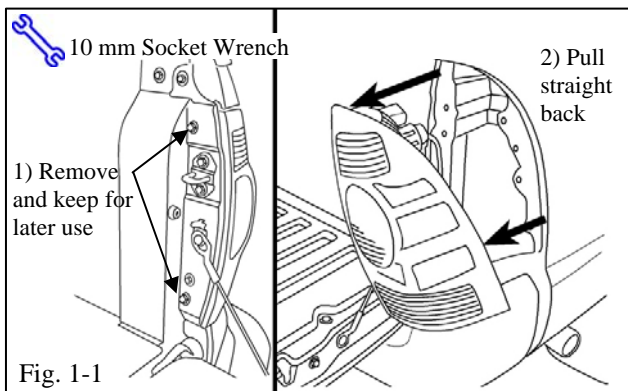
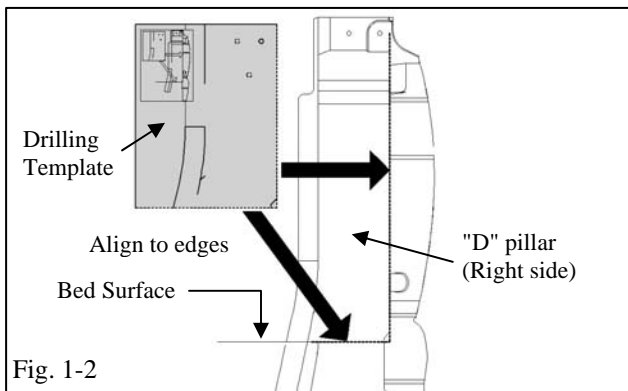

Fig. 1-1
Fig. 1-2
! (1) Carefully remove the lamp assemblies (Fig. 1-1).
(2) Remove the "D" pillar drilling templates from the hardware bag. Fold or cut on the dashed lines as described on the template.
! (3) Align the right side template to the right side "D" pillars as described on the template (Fig. 1-2).